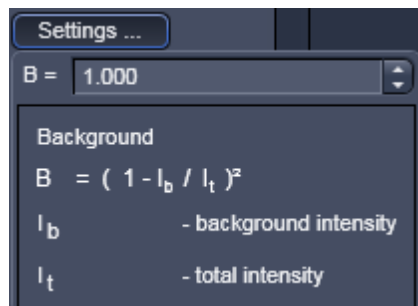

Fig. 277 Background Settings panel
- You can set an offset by setting a value in the **Background** selection box (Fig. 277). Either type in a value or use the arrows.